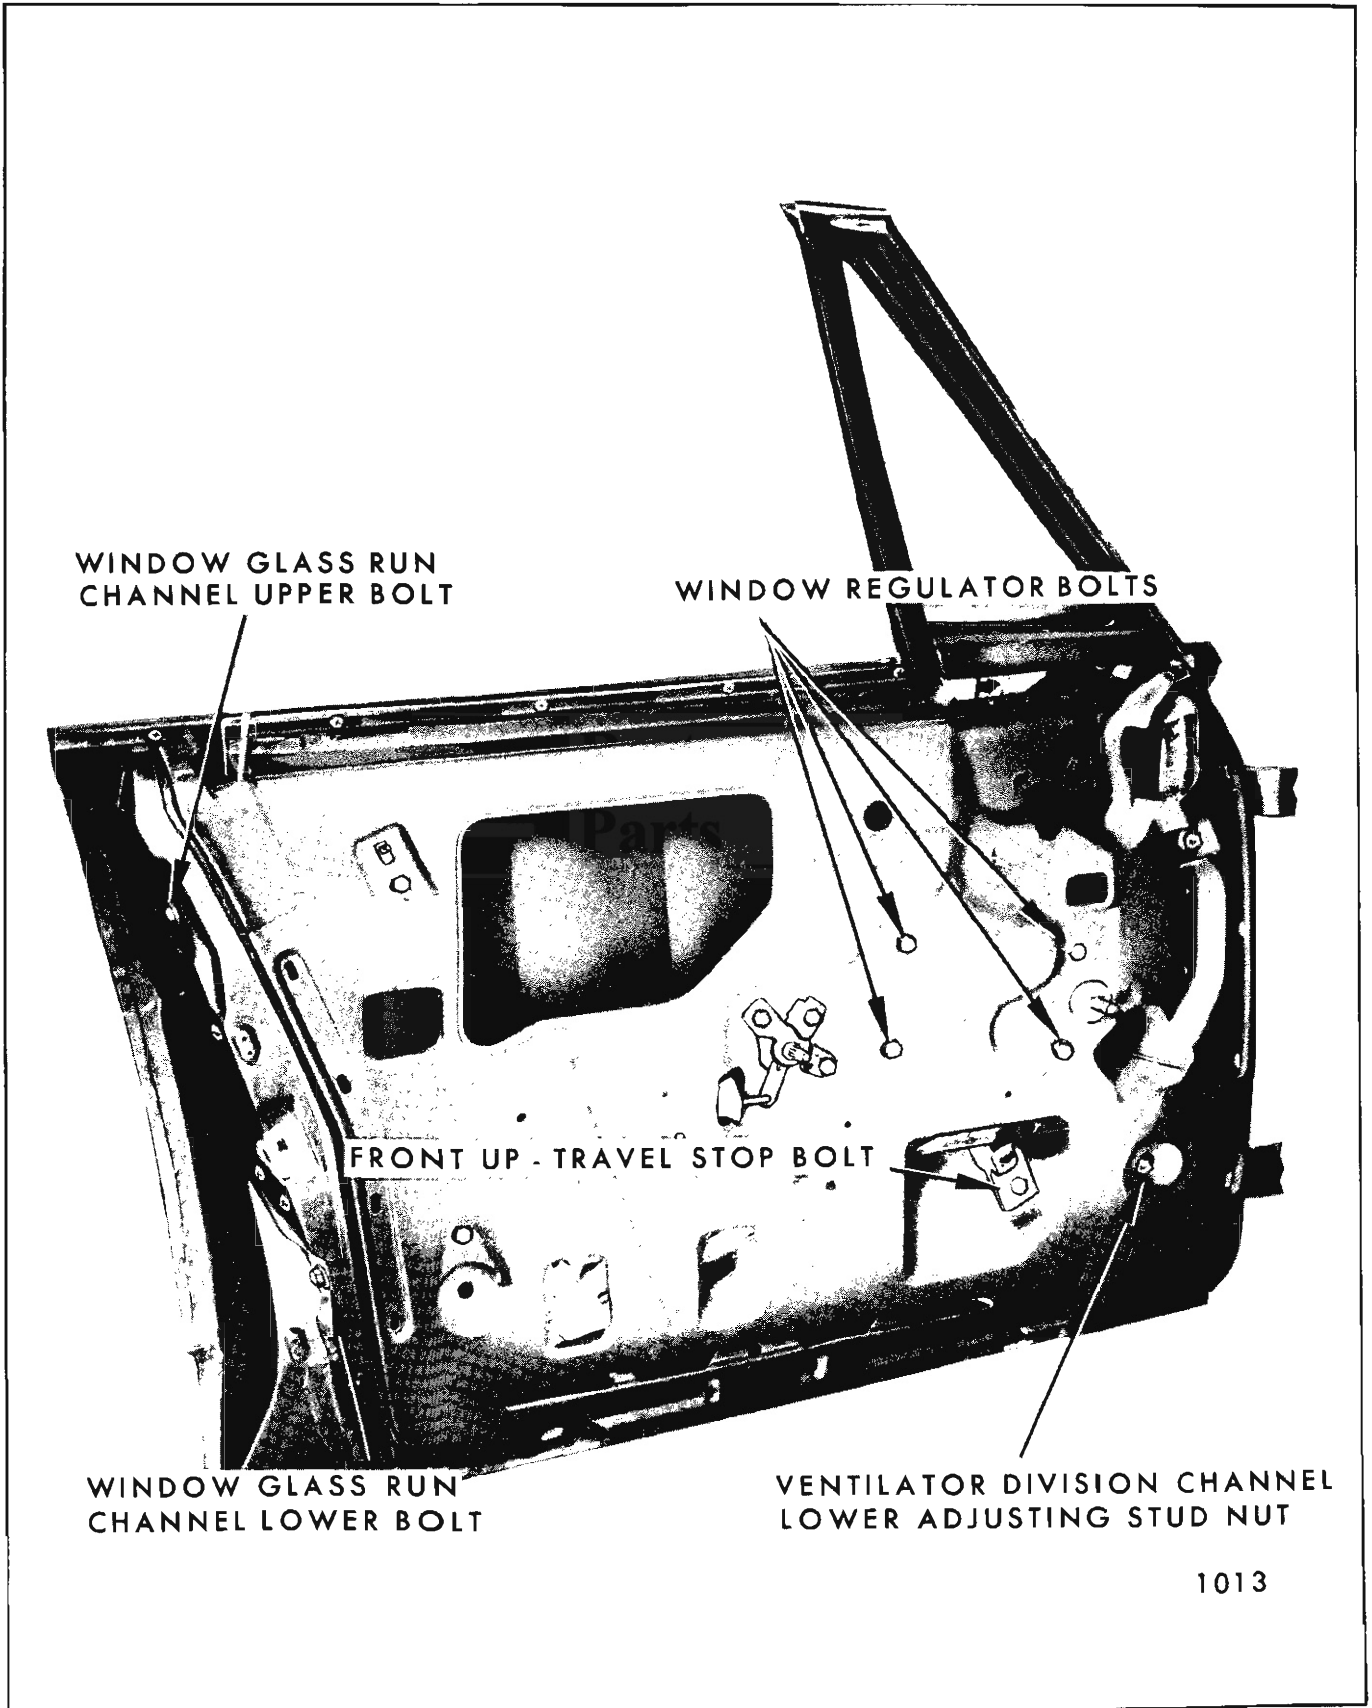

Fig. 1D39—Front Door Window Regulator and Glass Run Channel
3. Operate window to half-up position and remove rear guide plate attaching screws (Fig. 1D40).
4. Remove inner panel cam attaching screws (Fig. 1D40). Disengage cam from regulator balance arm roller and remove cam.